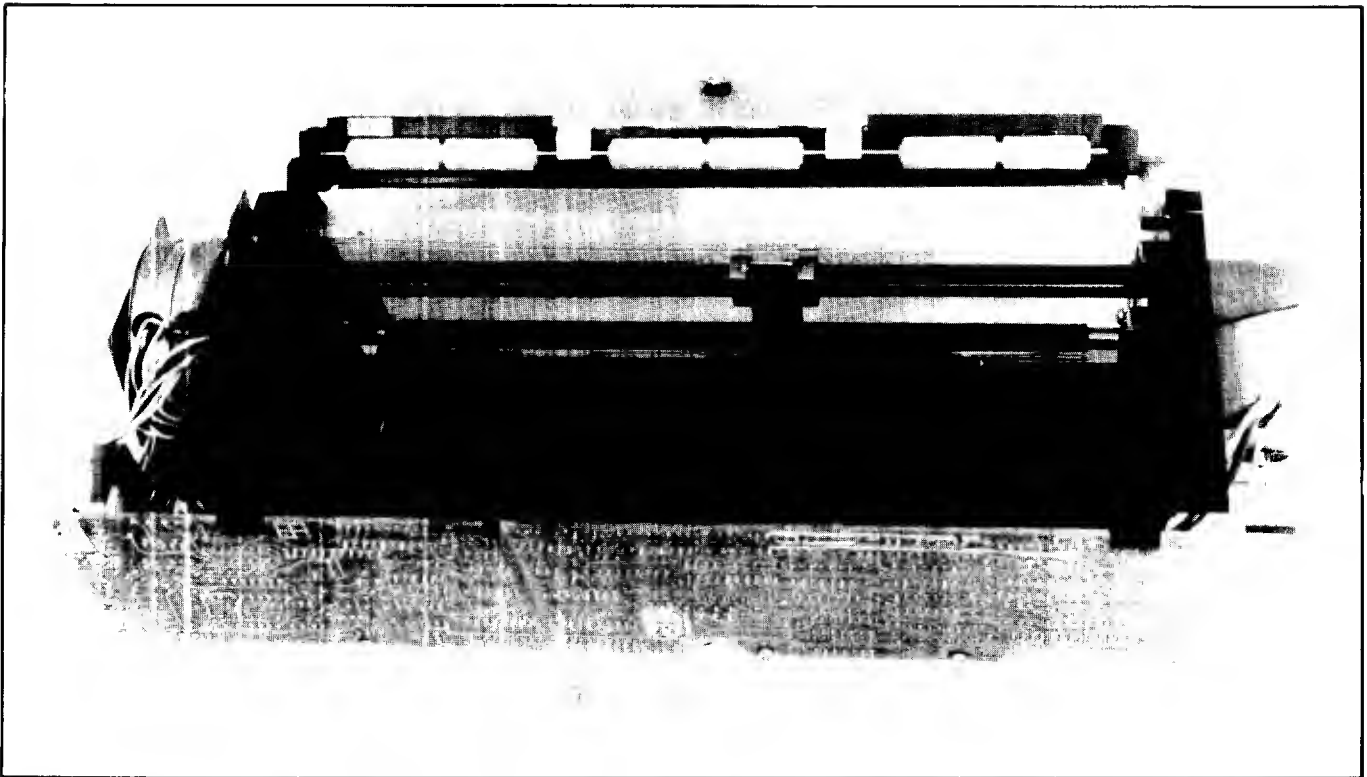

Figure 7-16 Print Head Assembly In Place
8. Fold the new flex cable similarly to the defective flex cable and route it along the TPM trough (see figure 7-16).